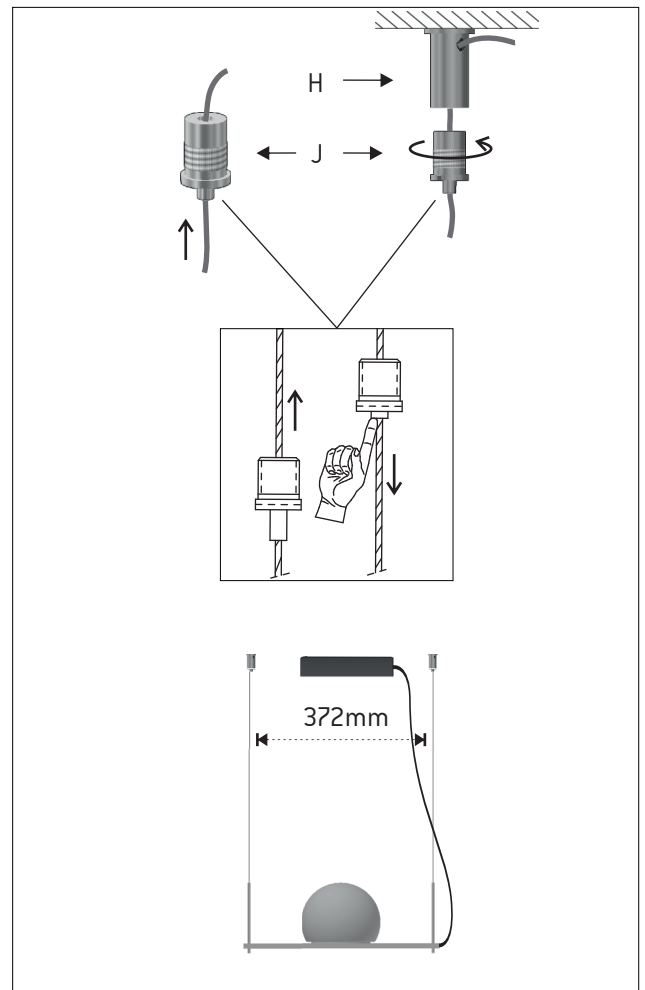

Figure 6
- 6 - Insert the steel cables into the gripper supports (J) and then insert them through the side hole of the tensors (H). Again screw the gripper support to the tensor and adjust the cable to the desired length. Figure 6